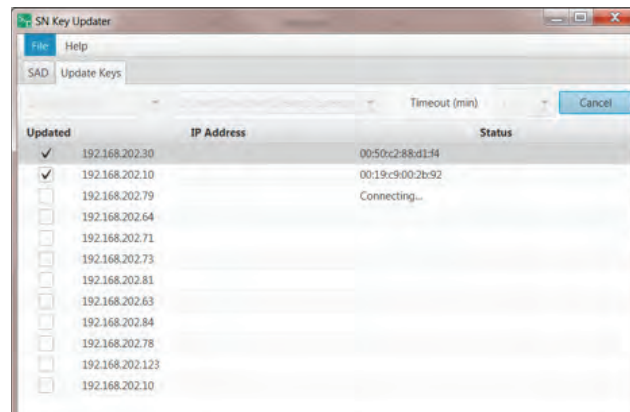

Figure 59. Key Update status.
STEP 40. A checkmark next to the IP address indicates the radio is successfully updated. In case of failures, click the Update button again after the update has been attempted for all radios and the **Update** button is highlighted. See Figure 59.